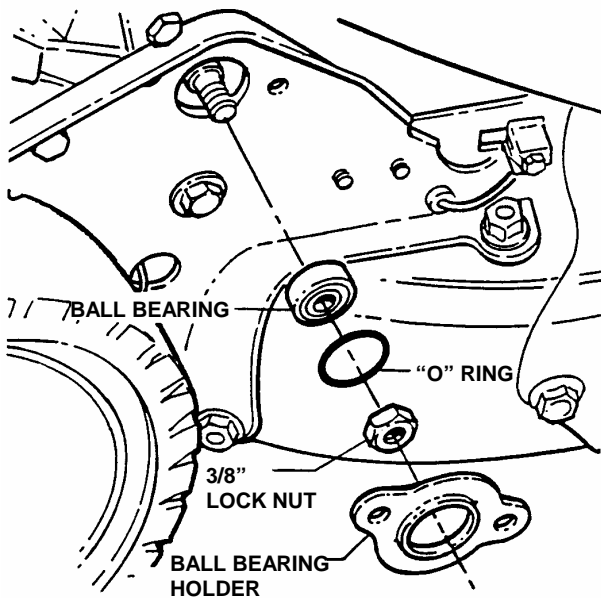

FIGURE 4.13
2. Remove the 3/8" hex lock nut which is located on the outside of the right wheel bracket. See Figure 4.13.